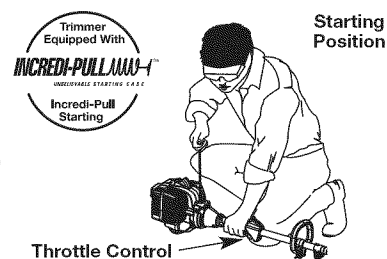

Fig. 8
**WARNING:** Avoid accidental starting. Make sure to be in the starting position when pulling the starter rope (Fig. 8). To avoid serious injury, the operator and unit must be in a stable position while starting.
5. Crouch in the starting position (Fig. 8). Do not squeeze the throttle. Pull the starter rope with a controlled motion until the unit starts.
5. Crouch in the starting position (Fig. 8). Do not squeeze the throttle. Place the Plug-In Power Start or Power Bit Start into the back of the unit. Refer to the *Operation* section of the Plug-In Power Start or Power Bit Start operator's manual.
6. Press and hold the ON (I) button of the Plug-in Power Start or Power Bit Start equipped drill in intervals no longer than 4 seconds each until the unit starts.
7. Wait and allow the unit to idle for 5 - 10 seconds. If the unit stops running during this time, squeeze the throttle control, then press and hold the ON (I) button of the Plug-in Power Start or Power Bit Start equipped drill in intervals no longer than 4 seconds each until the unit starts.
**IF...** The engine fails to start after a few attempts, squeeze the throttle control, then press and hold the Plug-In Power Start or drill ON (I) button in intervals no longer than 4 seconds each until the unit starts.